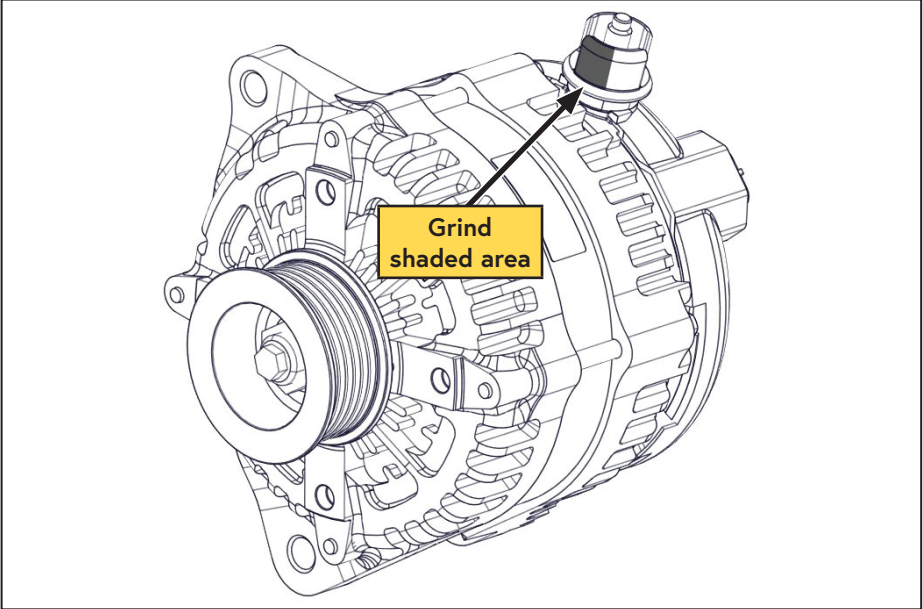

Figure 28 — Modify alternator post isolator
- ☐ Grind the shaded area of the terminal post shroud flush to the base (Figure 28).